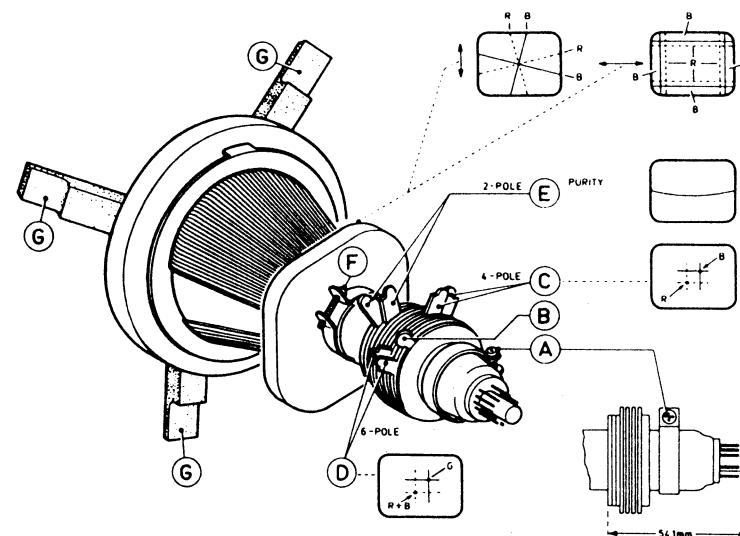

Fig. 4
The colour purity and convergence adjustments described hereafter need only be carried out if a completely new adjustment is called for or if a new picture tube has been fitted. Otherwise, for instance after replacing the deflection unit, it will not be necessary to remove the rubberwedges (G in Fig. 4), corrections by means of the multi-pole unit will then suffice.
3.1 Colour purity (see Fig. 4)
3.2 Static convergence (see Fig. 4)